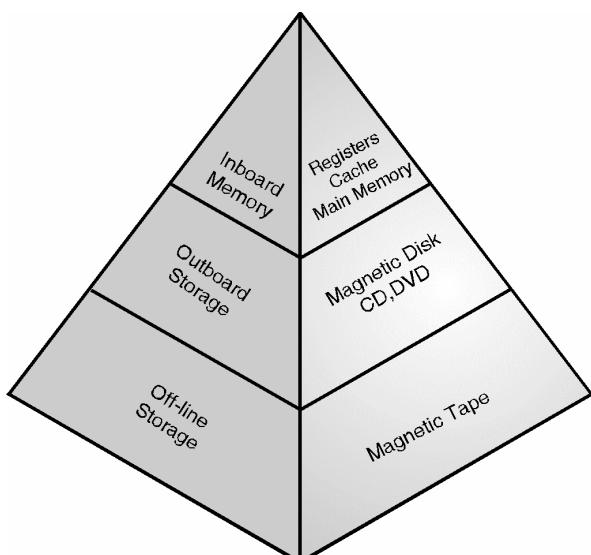

Fig. 11.2.1 : Memory hierarchy
- Fig. 11.2.1 shows the memory hierarchy based on the closeness to the processor. The registers as discussed are the closest to the processor and hence are the fastest while off-line storage like magnetic tape are the farthest and also the slowest.